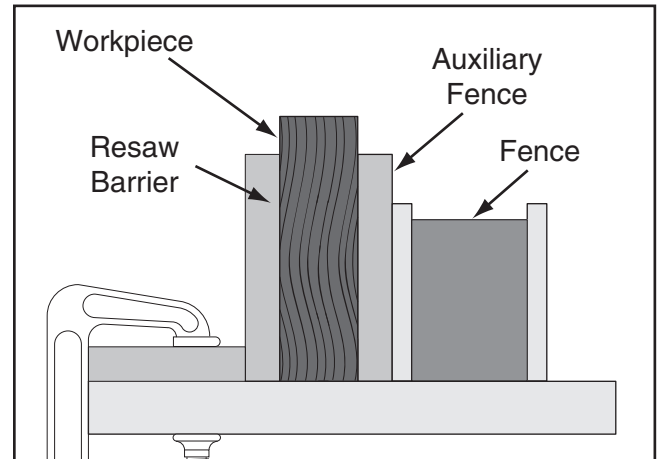

Figure 70. Ideal resaw workpiece setup.
5. Place workpiece against auxiliary fence and slide resaw barrier against workpiece, as shown in **Figure 70**. Now clamp resaw barrier to top of table saw at both ends.